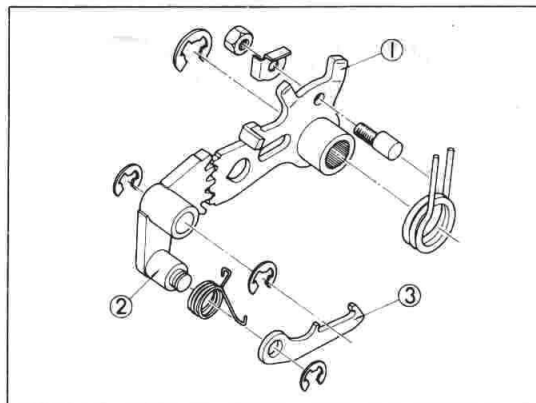

Fig. 3-3-14
Remove change lever ② and change lever ③ as an assembly. (Fig. 3-3-14)
Enlevez les leviers de changement de vitesse ② et ③ en bloc. (Fig. 3-3-14)